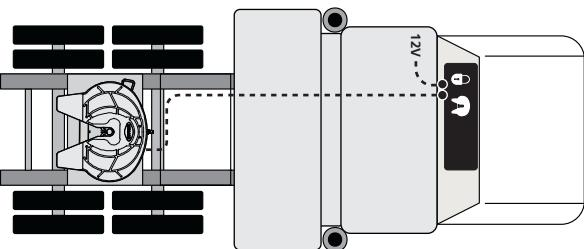

Figure 32
15. Connect the 25' extension cable to the wire harness on the fifth wheel (**Figure 32**).